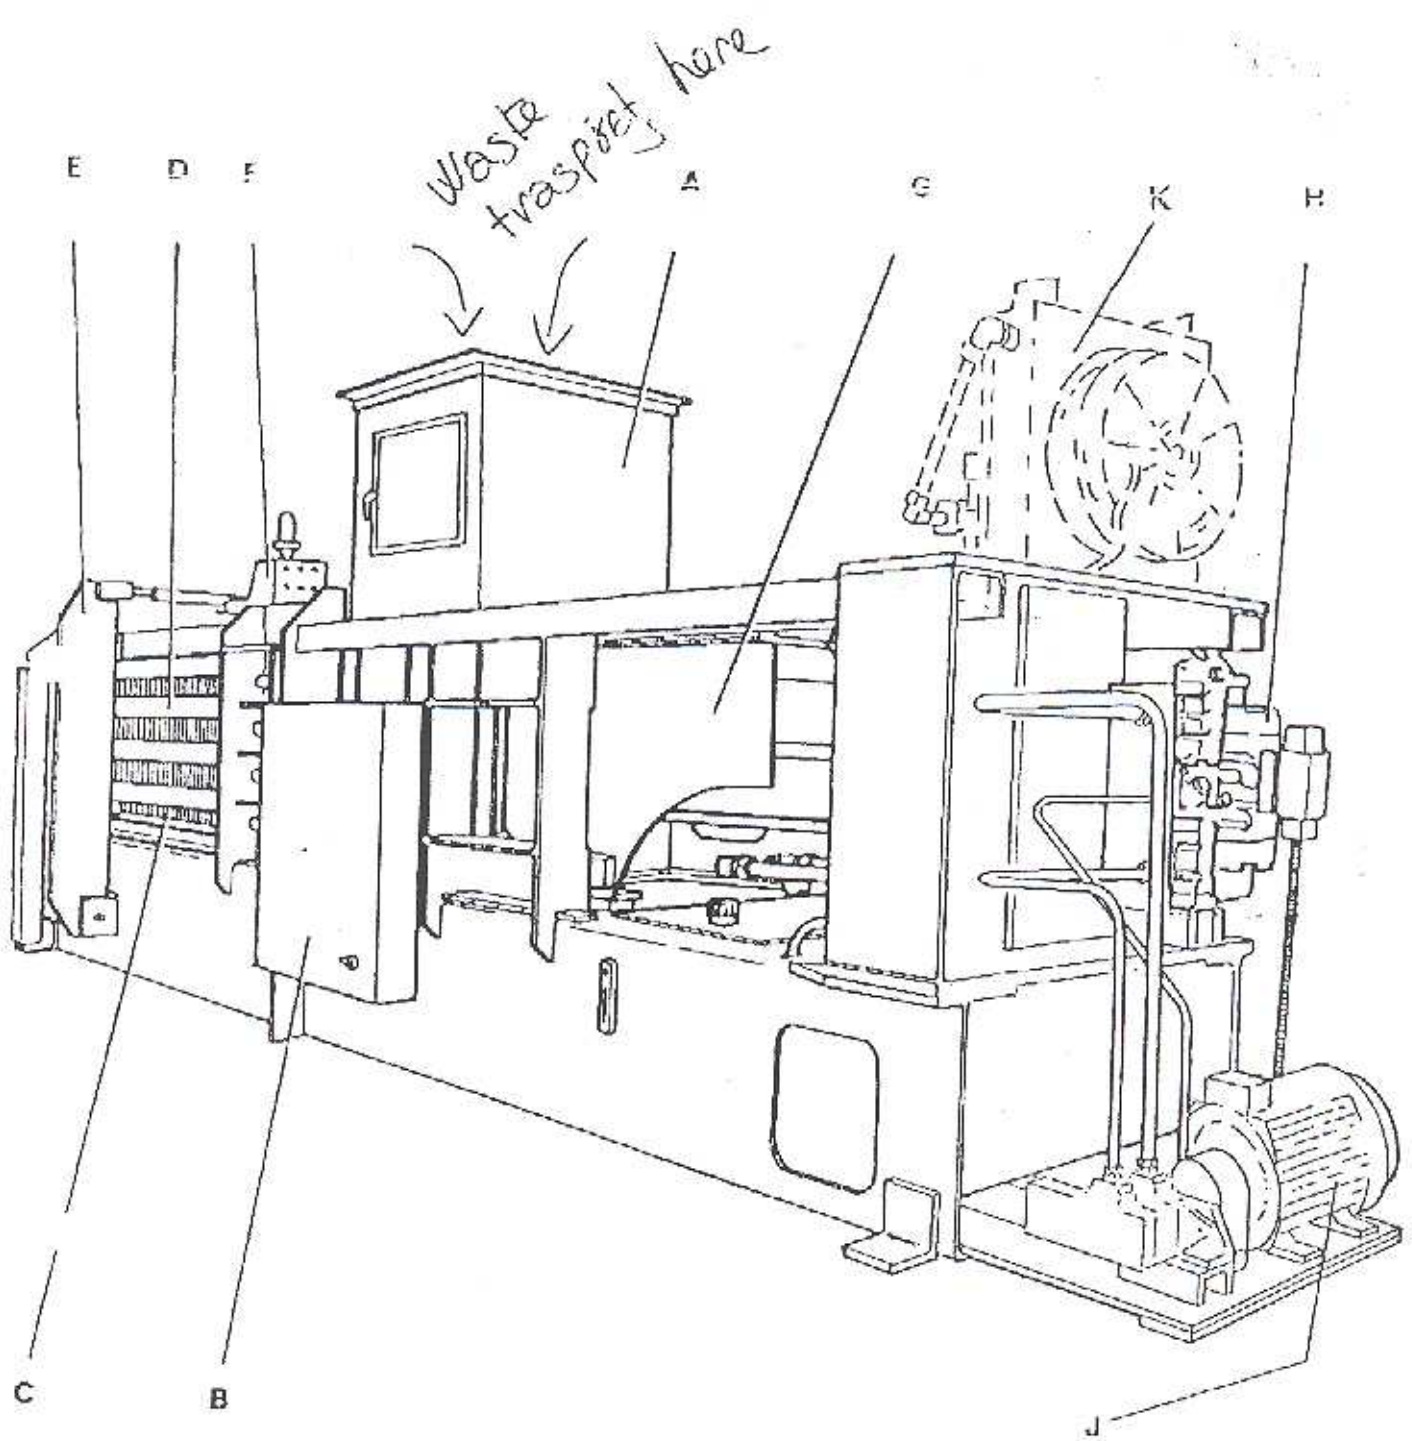

FIG. 1
3. GENERAL DESCRIPTION (Ref. Fig. 1)